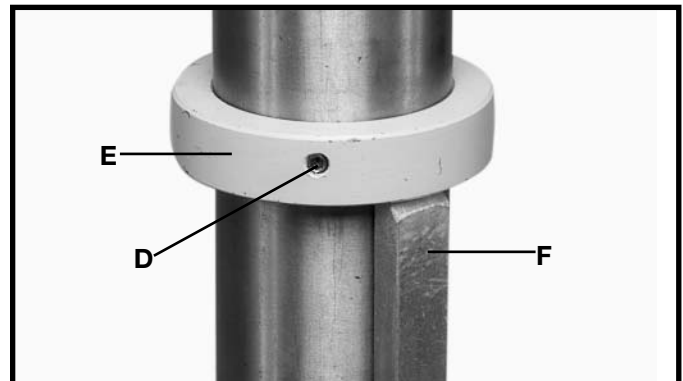

Fig. 9
5. Re-assemble ring (E) Fig. 9, which was removed in **STEP 1. IMPORTANT:** Bottom of ring (E) **MUST NOT** be pushed all the way down onto top of raising rack (F). **MAKE SURE** top of raising rack (F) is under bottom of ring (E) and that there is enough clearance to allow rack (F) to rotate around the column. **THEN TIGHTEN SET SCREW (D) BEING CAREFUL NOT TO OVERTIGHTEN.**